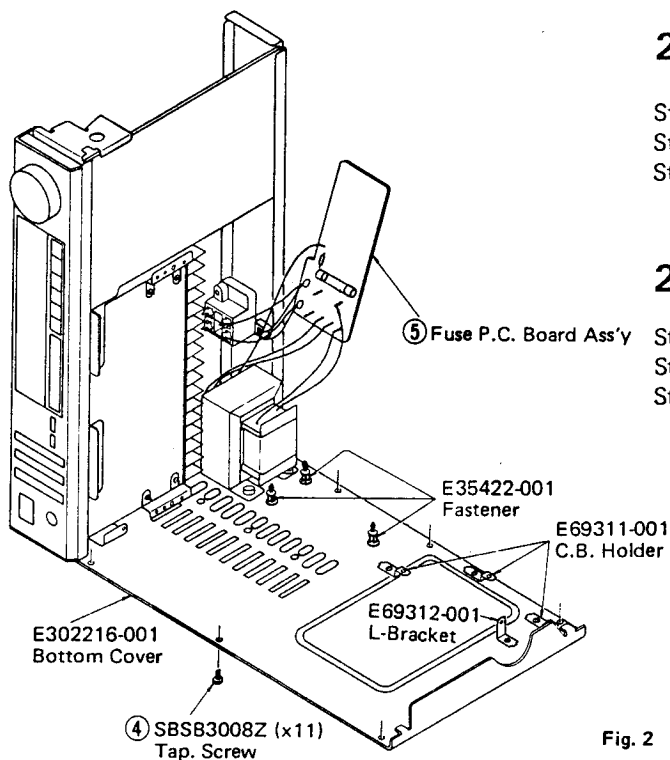

Fig. 2
- Step 2: Remove 11 screws ④. (Fig. 2)
- Step 3: Remove the Fuse P.C. Board Ass'y ⑤ from fasteners and replace the Bottom Cover.